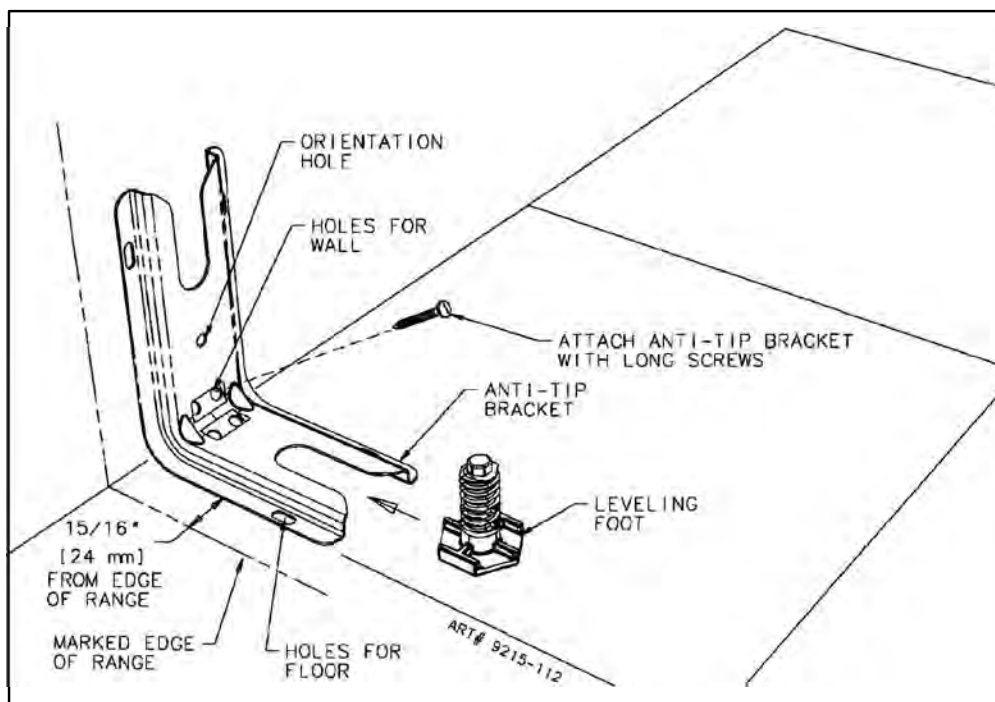
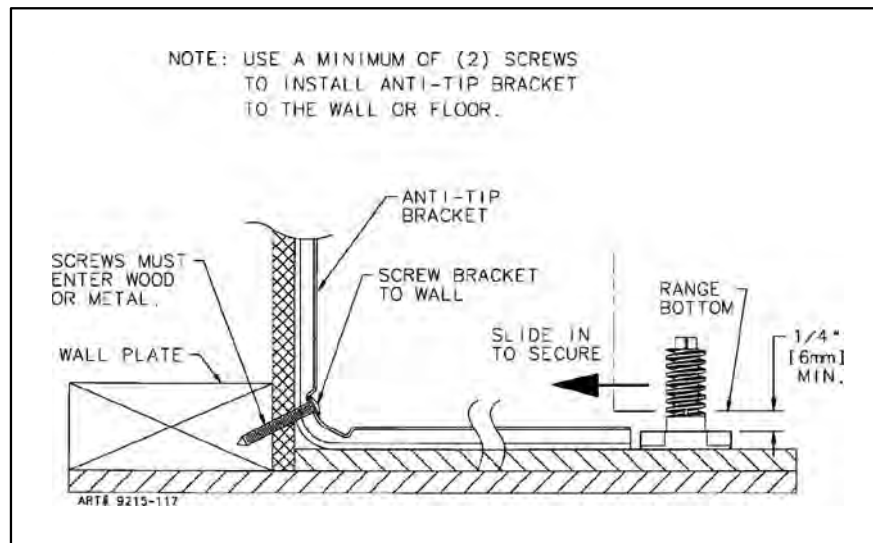

FIGURE 5
FIGURE 6
Install the bracket with the orientation hole in the longer leg against the wall as shown in figure 5.
STEP 1 - Locating The Anti-tip Bracket (See Figure 5)
- Place the BRACKET 15/16" (24mm) from the marked "EDGE" toward center of opening and against the back wall as shown in figure 5, with orientation hole against wall.
- Use the bracket as a template and mark the required holes, as shown in figure 5, for the type of construction you will be using.
1. Floor: Locate the center of the two holes identified in figure 5 as "HOLES FOR FLOOR." Drill a 1/8" (3 mm) pilot hole in the center of each hole (a nail or awl may be used if a drill is not available). Secure the ANTI-TIP bracket to the floor with the two screws provided. Proceed to STEP 3.
2. Wall: Locate the center of the two holes identified in figure 5 as "HOLES FOR WALL." Drill an angled 1/8" (3 mm) pilot hole in the center of each hole as shown in figure 6. (A nail or awl may be used if a drill is not available). Secure the ANTI-TIP bracket to the wall with the two screws provided as shown in figure 6. Proceed to STEP 3.
1. Suitable screws for concrete construction can be obtained at the hardware store. Drill the required size hole for the hardware obtained into the concrete at the center of the holes identified in figure 5 as "HOLES FOR FLOOR". Secure the ANTI-TIP bracket to the floor. Proceed to STEP 3.
- B. Align the range to its designated location and slide it back into position. Note: A minimum clearance of 1/4" (6 mm) is required between the range and the leveling foot that will engage the ANTI-TIP bracket, see figure 6.